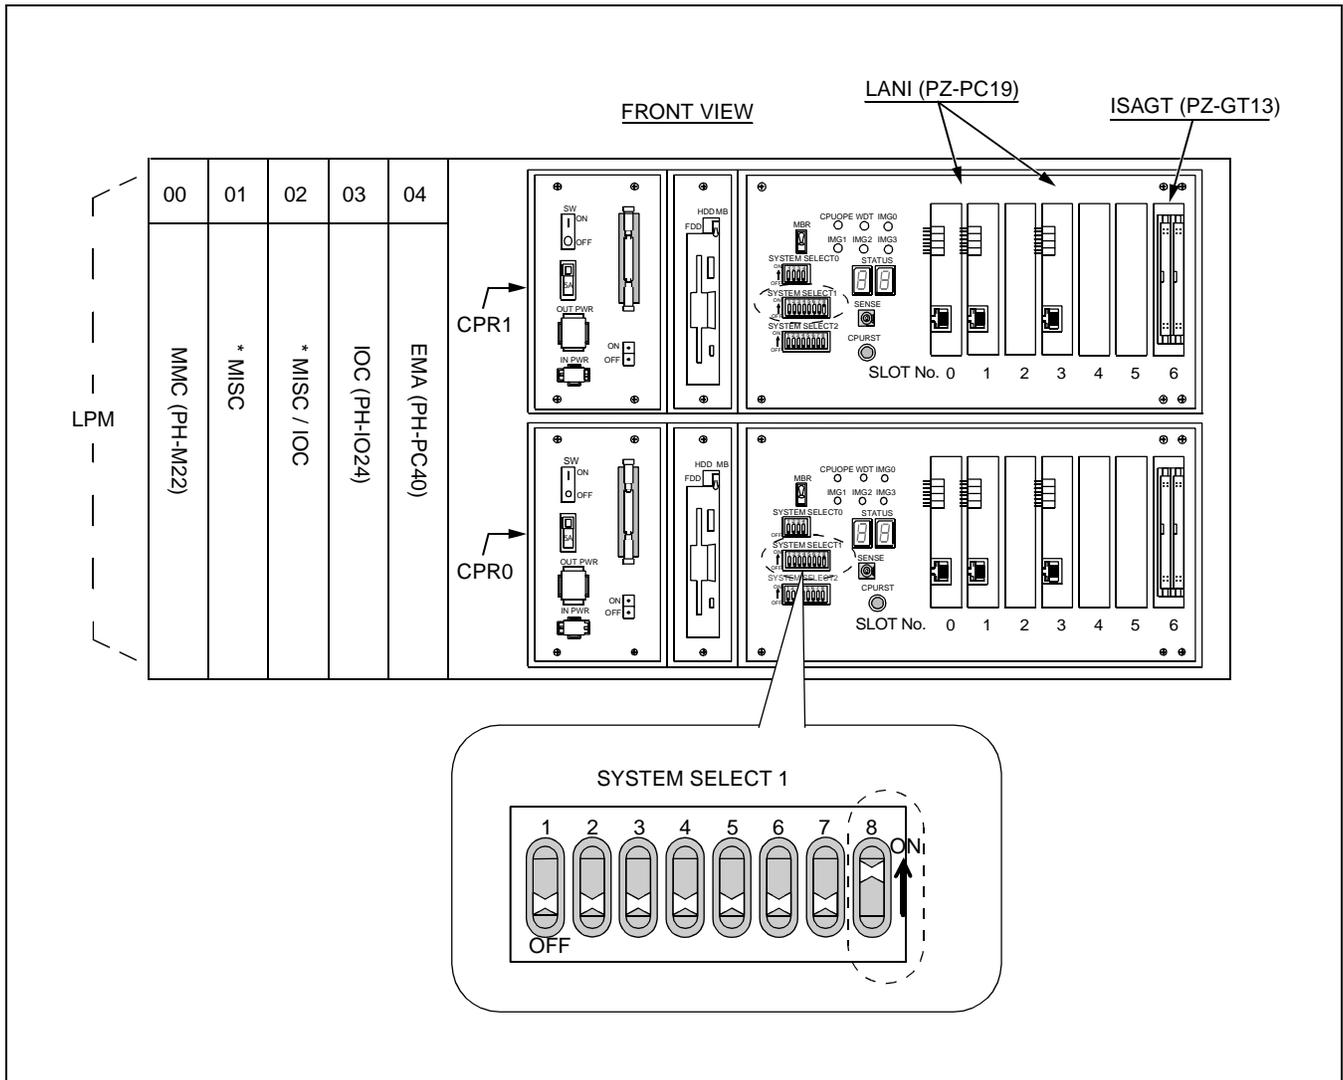

Figure 009-9 Switch Setting on the CPU Front Panel
6. Lastly, make sure that Switch 8 of “SYSTEM SELECT 1” (DIP Switch) on each CPU Front Panel (for all LNs and ISW) is set to “ON.” (Refer to Figure 009-9.)